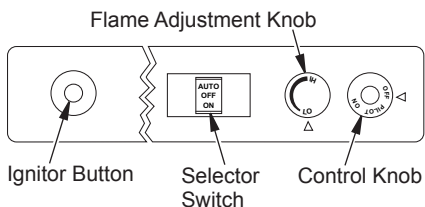

Figure 22 - Control Knob and Ignitor Button Location (Shown as Supplied, No Control Options)
- Wait five (5) minutes to clear out any gas. Then smell for gas, including near the floor. If you smell gas, STOP! Follow "B" in the safety information, page 18. If you don't smell gas, go to the next step.
- Press in and turn control knob counterclockwise ↶ to the PILOT position. Press in control knob for five (5) seconds (see Figure 22).